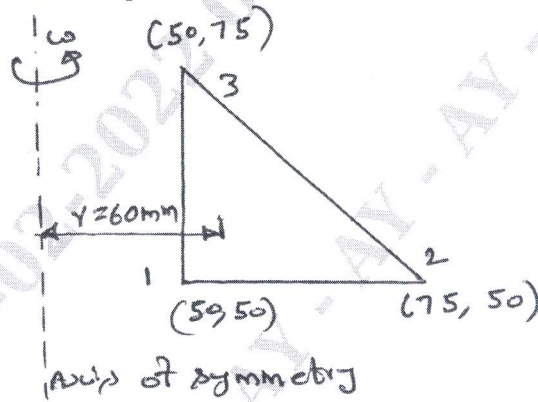

Fig.Q9(b)
b. For the element of an axisymmetric body rotating with a constant angular velocity $\omega = 1000$ rev/min as shown in Fig.Q9(b), determine the body force vector. Include the weight of the material, where the specific density is 7850 kg/m^3 .